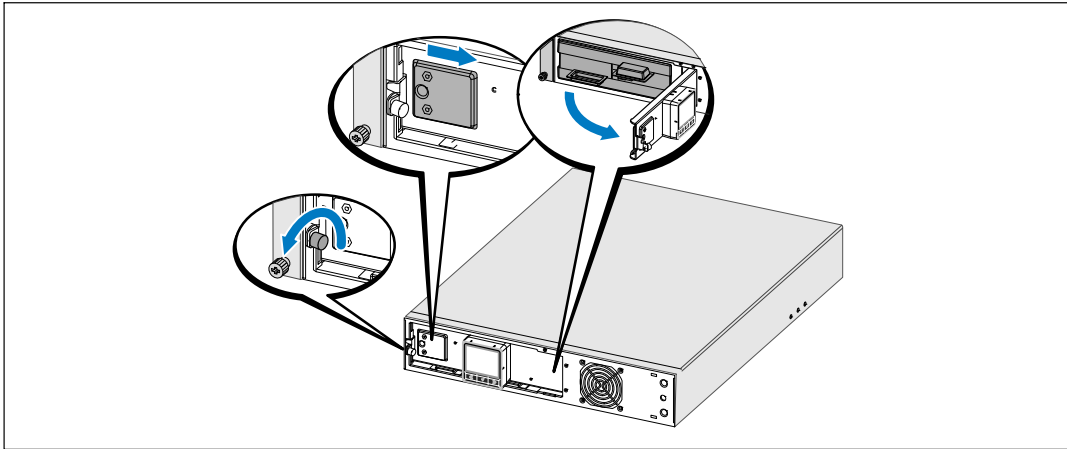

Figure 20. Opening the Metal Battery Cover
- 2 Loosen the thumbscrew on the metal battery cover, slide the cover to the right, and open (see Figure 20).